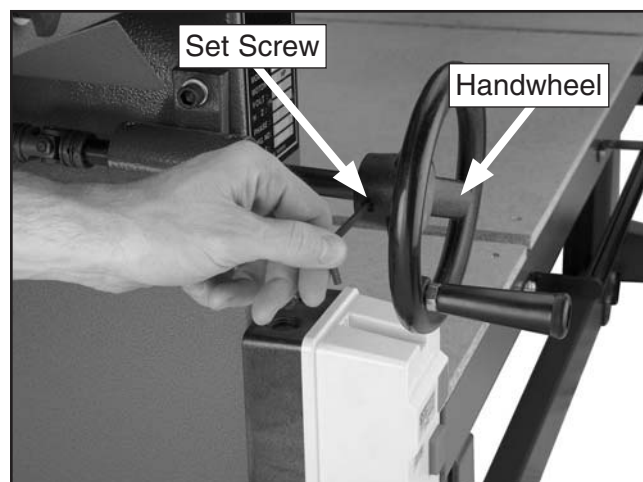

Figure 25. Handwheel placement.
19. Attach the elevation handwheel by aligning the flat portion of the shaft with the set screw on the handwheel, then sliding the handwheel over the shaft and tightening the set screw (**Figure 25**).